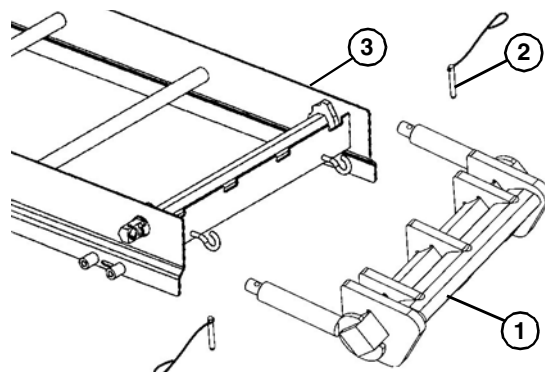

**Figure 16**
- Place the idler tail assembly (**Figure 16, item 1**) against the holes in the tip up hex shaft assembly (**Figure 16, item 2**) and secure with a pull pin (**Figure 16, item 3**) on each side.